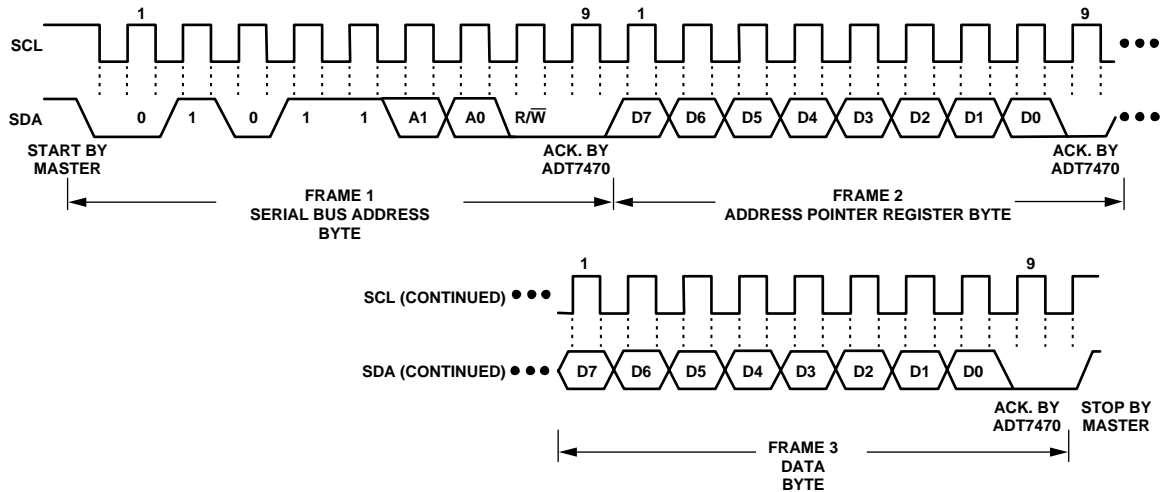
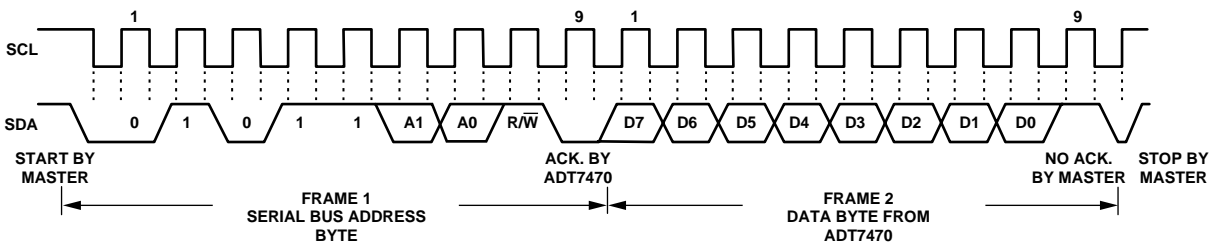

Figure 7. Writing a Register Address to the Address Pointer Register, Then Writing Data to the Selected Register
Figure 9. Reading Data from a Previously Selected Register
This is illustrated in Figure 7. The device address is sent over the bus followed by  $\overline{R/\overline{W}}$  set to 0. This is followed by two data bytes.
A read operation is then performed consisting of the serial bus address, R/W bit set to 1, followed by the data byte read from the data register. This is shown in Figure 9.
- In Figure 7 to Figure 9, the serial bus address is shown as the default value 01011(A1)(A0), where A1 and A0 are set by the address select mode function previously defined.